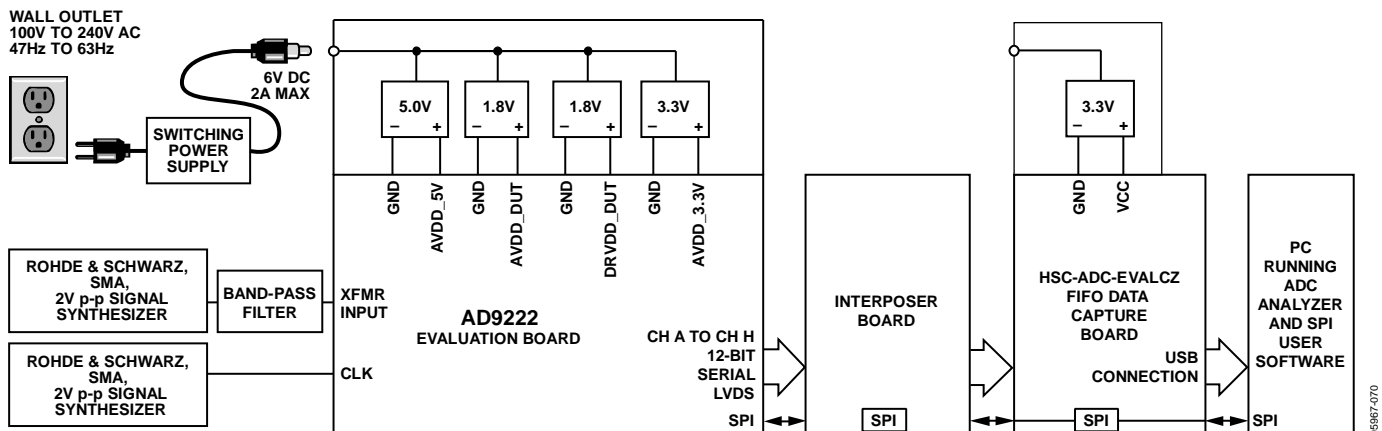
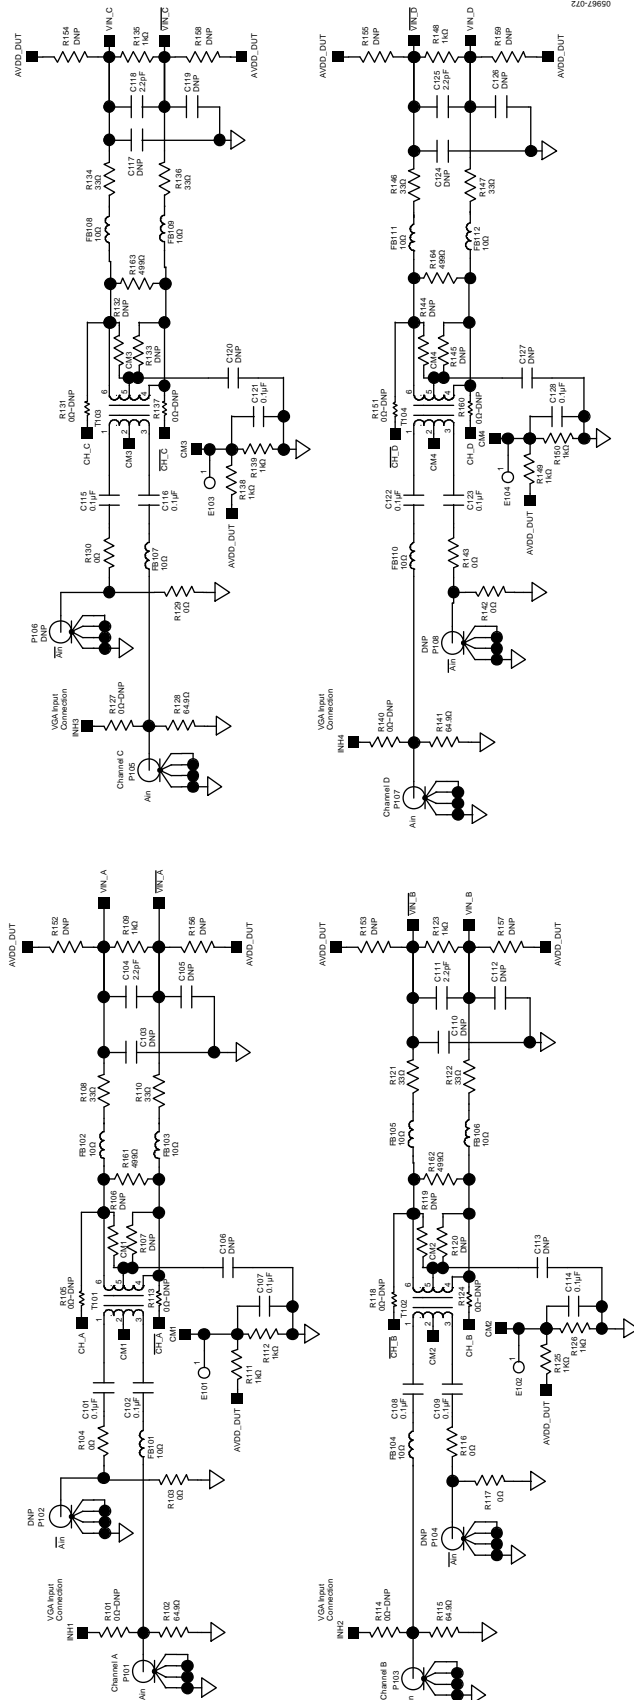
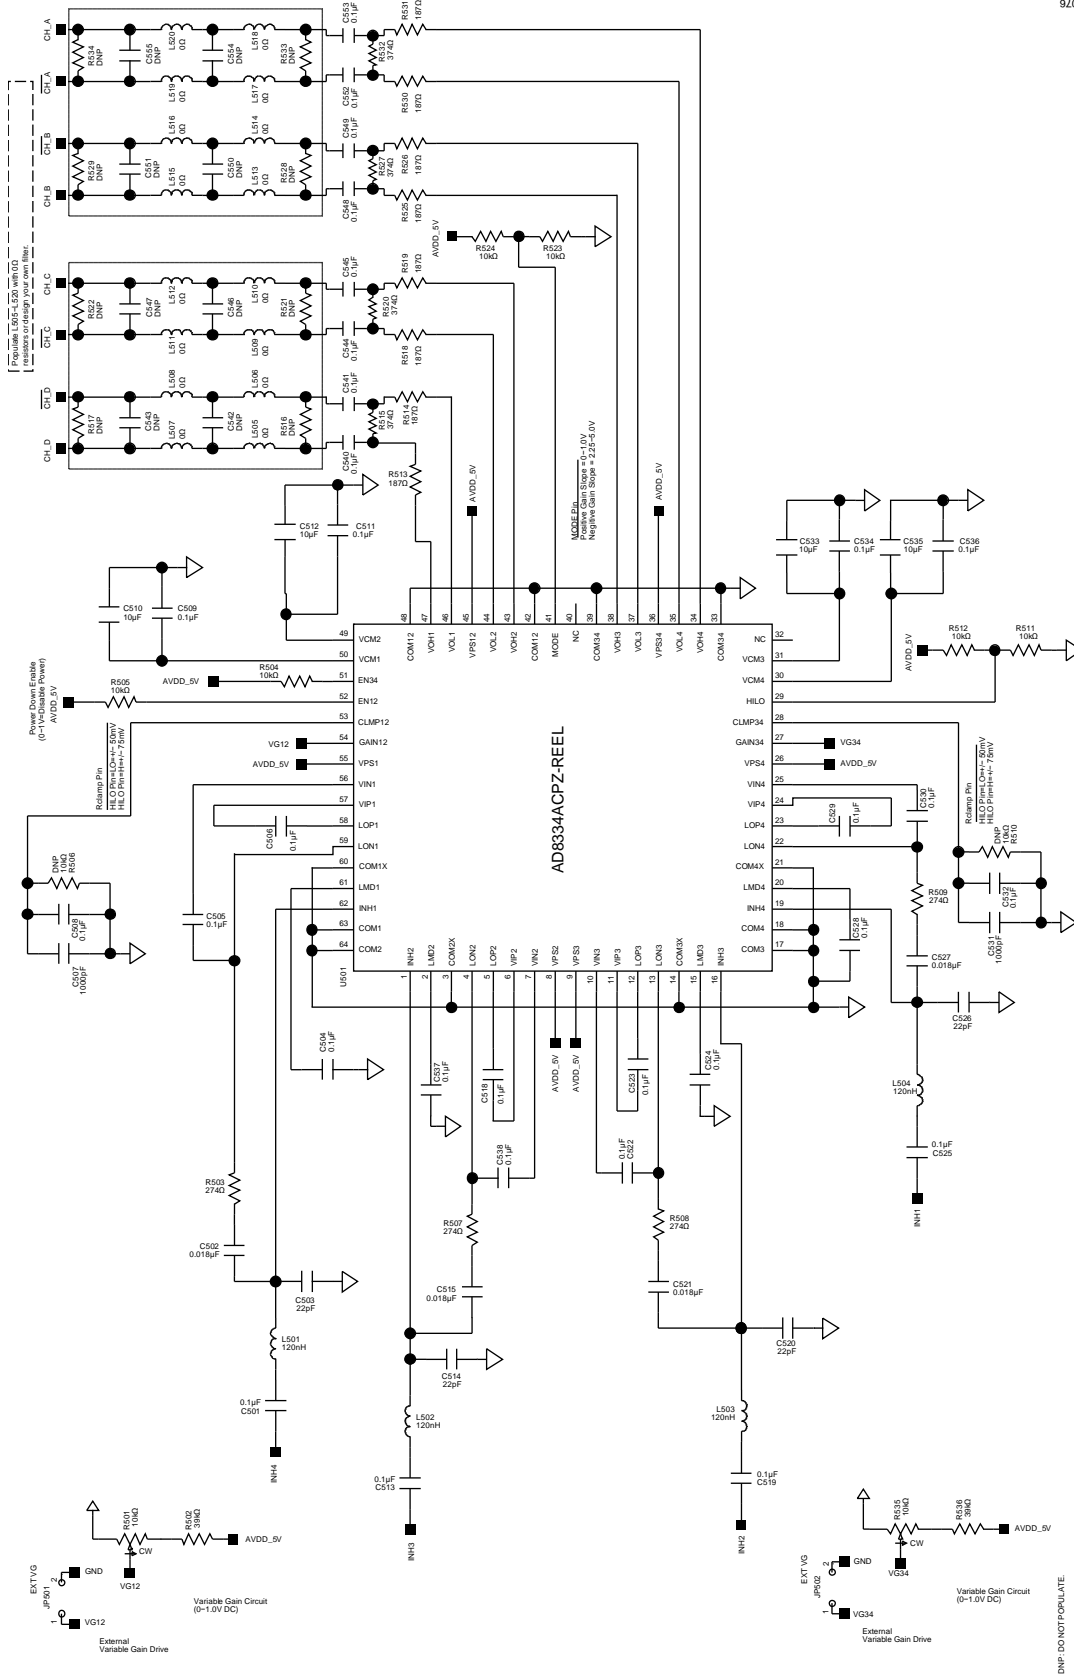

Figure 86. Evaluation Board Connection
Figure 90. Evaluation Board Schematic, DUT Analog Inputs
Figure 94. Evaluation Board Schematic, Optional DUT Analog Input Drive
The AD9222 evaluation board provides all of the support circuitry required to operate the ADC in its various modes and configurations. The converter can be driven differentially using a transformer (default) or an AD8334 driver. The ADC can also be driven in a single-ended fashion. Separate power pins are provided to isolate the DUT from the drive circuitry of the AD8334. Each input configuration can be selected by changing the connection of various jumpers (see Figure 90 to Figure 94). Figure 86 shows the typical bench characterization setup used to evaluate the ac performance of the AD9222. It is critical that the signal sources used for the analog input and clock have very low phase noise (<1 ps rms jitter) to realize the optimum performance of the converter. Proper filtering of the analog input signal to remove harmonics and lower the integrated or broadband noise at the input is also necessary to achieve the specified noise performance.
See Figure 90 to Figure 100 for the complete schematics and layout diagrams demonstrating the routing and grounding techniques that should be applied at the system level.
- **D + x, D - x:** If an alternative data capture method to the setup shown in Figure 90 is used, optional receiver terminations, R318 and R320 to R328, can be installed next to the high speed backplane connector.